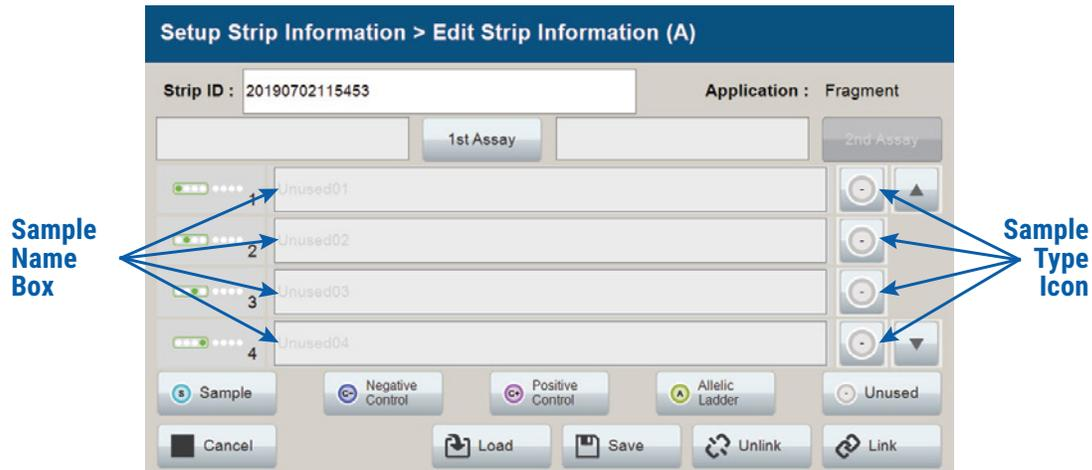

Figure 11. 'Edit Strip Information' screen.
2. Select a lane icon (A, B, C or D) to enter information for that 8-well strip tube. This opens the 'Edit Strip Information' screen for that lane (Figure 11). This screen displays fields for defining the Strip ID, run assay, sample name and sample type for that lane. Each well in the strip is represented along the left side of the screen. The first injection set of the strip (Wells 1–4) is displayed on the screen. You can use the arrows on the right side of the screen to scroll to the second injection set (Wells 5–8).